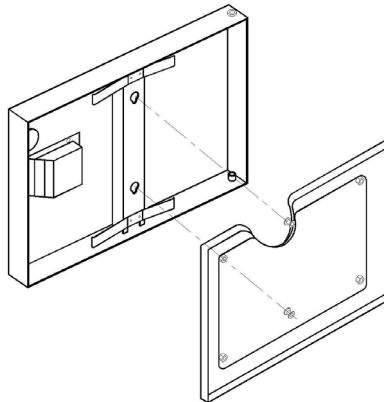

Figure 5-1 Inner Door Assembly
- (1) Refer to Power OFF (Automatic Blowdown), and turn off the steamer compartment. Allow 3 minutes for the complete blowdown cycle.
- (2) Open the steamer doors and allow steamer to cool.
- (3) Remove the slide racks. Wash and rinse racks separately or clean them in a dishwasher according to health requirements. Do not remove the drain screen.
- (4) Remove any spilled food from inside compartment and clear any residue from the drain screen. Clean the interior of the compartment thoroughly. Use a soft bristle brush to remove stubborn food particles. Do not use abrasive cleaning compounds or steel wool. Rinse inside of steamer compartment with clean water.
- (5) Clean the door assembly.
- Remove the inner door assembly (see Figure 5-1).